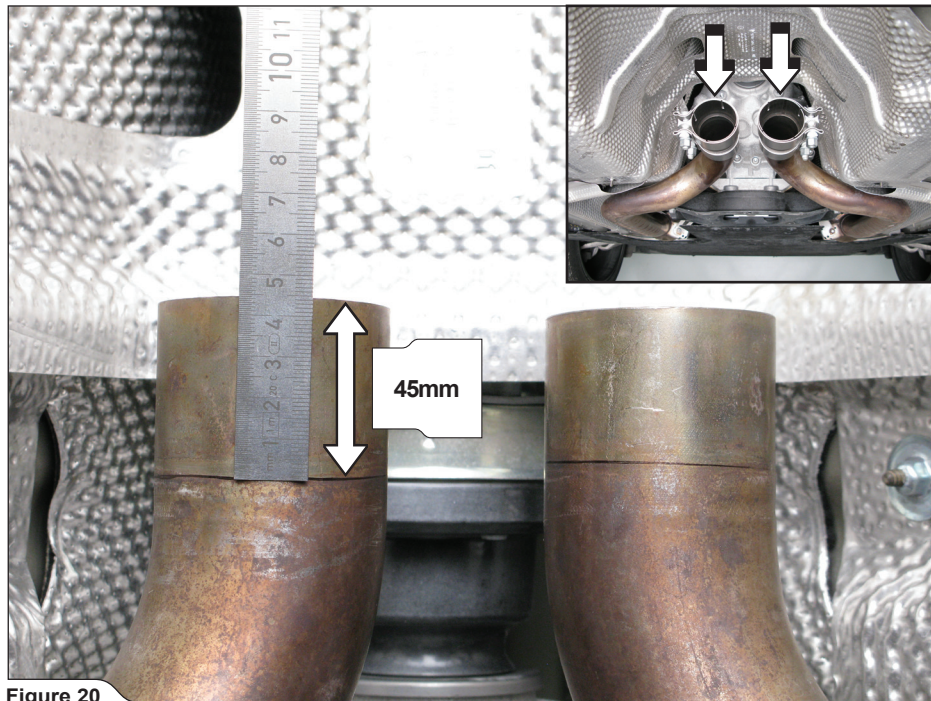

Figure 20
7. **For V6 and V8-non turbo vehicle models only:** for easier centering of the adapters later, mark the original down pipes 45mm from the pipes' outlets and slide the adapters onto the original down pipes, as shown (Figure 20).